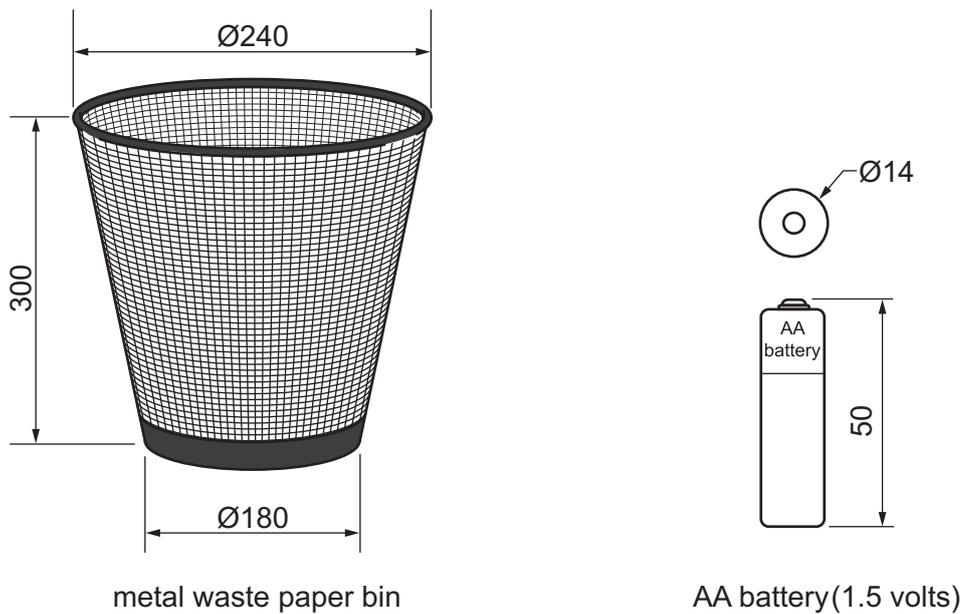

Fig. 9.1
- 9 Fig. 9.1 shows a metal waste paper bin and the sizes of an AA battery. A paper shredder is to be attached to the top of the waste paper bin.